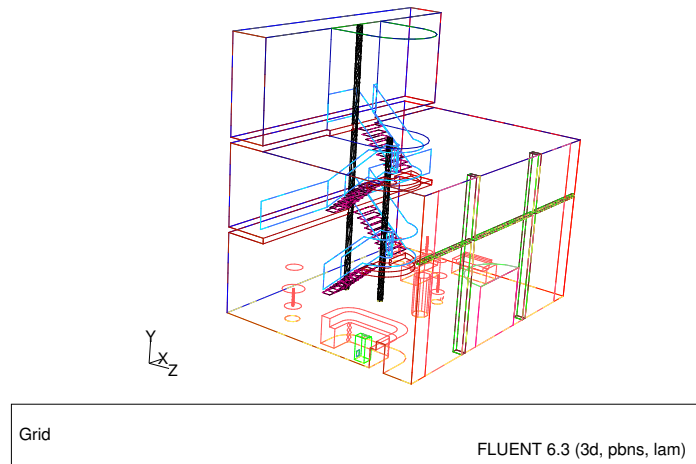

Figure 2: Graphics Display of the Grid (Features)
3. Display the grid (Figure 2).